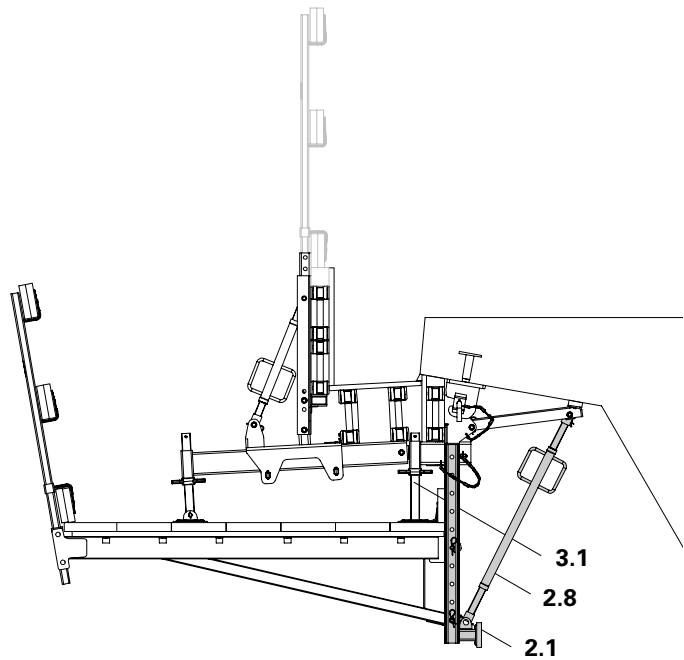

Fig. A4.01a
- Kicker AV 111 (2.8) is always connected to the base of the Bracket Post (2.1) by means of bolts and cotter pins. (Fig. A4.01a)